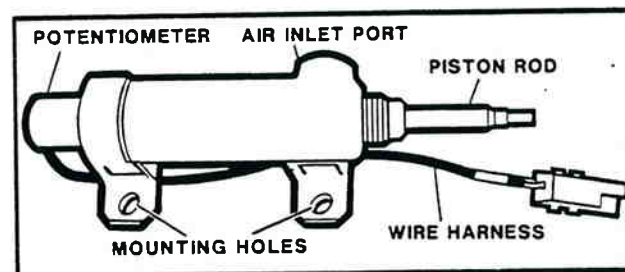

Figure 9-11. Air Cylinder.
**AIR CYLINDER** — a die cast aluminum, piston type air cylinder which controls the throttle position while cruise control is in operation. A potentiometer located in the end of the cylinder monitors and reports throttle position to the control module via the connecting wiring harness. The cylinder is approximately two inches in diameter and nine inches long (5.1 x 22.9 cm) with a single 1/4" (6.35 mm) NPTF air connection port. The end of the cylinder body and piston rod are threaded to accept the throttle cable assembly. Two mounting lugs are provided. Refer to figure 9-11.